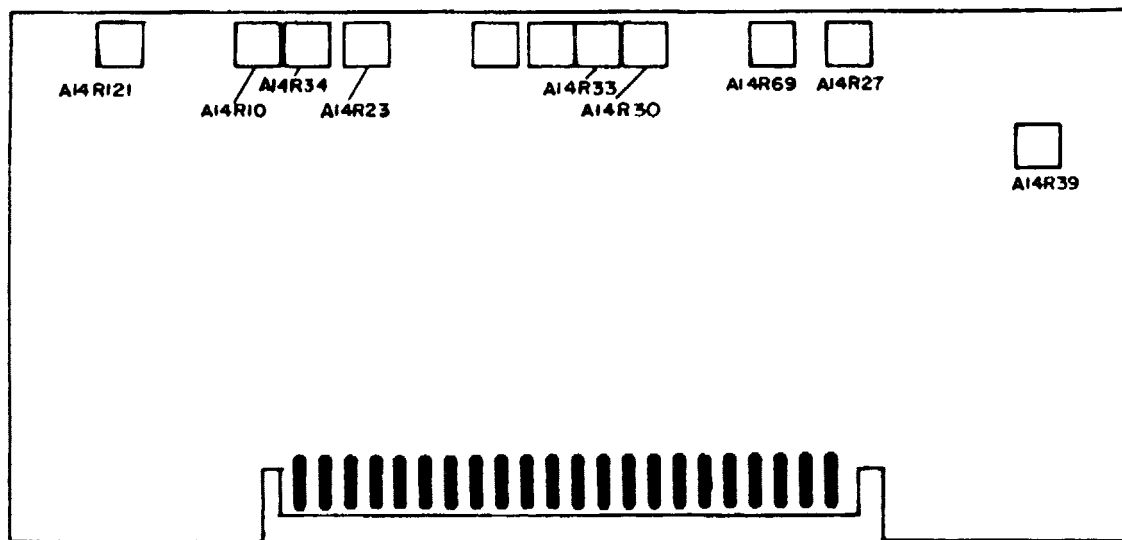

Figure 13. A14 log amplifier assembly adjustment locations for SN prefix 2436A.
- (9) Press **10 dB/DIV** pushbutton in and adjust A14R23 (fig. 13) for a multimeter indication of 800 mV, ± 1 mV (plus offset value recorded in (7) above) (R).
- (10) Set variable attenuator 10 dB step control to 60 dB and adjust A14R10 (fig. 13) for a multimeter indication of 200 mV, ± 1 mV (plus offset voltage recorded in (7) above) (R).
(11) Set variable attenuator 10 dB step control to 0.
(12) Repeat (9) through (11) above until no further adjustment is required.
(13) Set variable attenuator 10 dB step control to 30 dB and adjust A14R23 (fig. 13) for a multimeter indication of 500 mV, ± 1 mV (plus offset voltage recorded in (7) above) (R).
(14) Set variable attenuator 10 dB step control to 0 dB and adjust A14R69 (fig. 13) for a multimeter indication of 800 mV ± 1 mV, (plus offset voltage recorded in (7) above) (R).
(15) Repeat (13) and (14) above until no further adjustment is required.
(16) Set variable attenuator 10 dB step control to 10 dB and adjust A14R23 (fig. 13) for a multimeter indication of 700 mV, ± 1 mV (plus offset voltage recorded in (7) above) (R).
(17) Set variable attenuator 10 dB step control to 0 dB and adjust A14R39 (fig. 13) for a multimeter indication of 800 mV, ± 1 mV (plus offset voltage recorded in (7) above) (R).
(18) Repeat (16) and (17) above until no further adjustment is required.
(19) Set variable attenuator 10 dB step control to settings as listed in table 9. If multimeter does not indicate within specified limits, repeat (9) through (18) above.
- (20) Set **REFERENCE LEVEL** switch to **-50 dBm** and press **LIN** pushbutton in.
- (21) Set variable attenuator 10 dB step control to 0 dB and adjust A14R34 (fig. 13) for a multimeter indication of 800 mV \pm 1 mV (plus offset voltage recorded in (7) above) (R).
- (22) Set **REFERENCE LEVEL** switch and variable attenuator 10 dB step control to settings as listed in table 10. If multimeter indication is not within specified limits, perform adjustment listed.
- (23) Set **REFERENCE LEVEL** switch to **-50 dBm** and press **1 dB/DIV** pushbutton in.
- (24) Set variable attenuator 10 dB step control to 0 dB and adjust signal generator RF output controls for a multimeter indication of 800 mV, \pm 1 mV (plus offset voltage recorded in (7) above).
- (25) Set variable attenuator 10 dB step control to 40 dB.
- (26) Set **REFERENCE LEVEL** switch to **-90 dBm** and adjust A14R121 (fig. 13) for a multimeter indication of 800 mV, \pm 3 mV (plus offset voltage recorded in (7) above) (R).
(51) Set **REFERENCE LEVEL** switch and variable attenuator to settings as listed in table 13. If any deviation from reference is not within specified limits adjust A14R1 (fig. 13) for best (in limits) compromise (R).